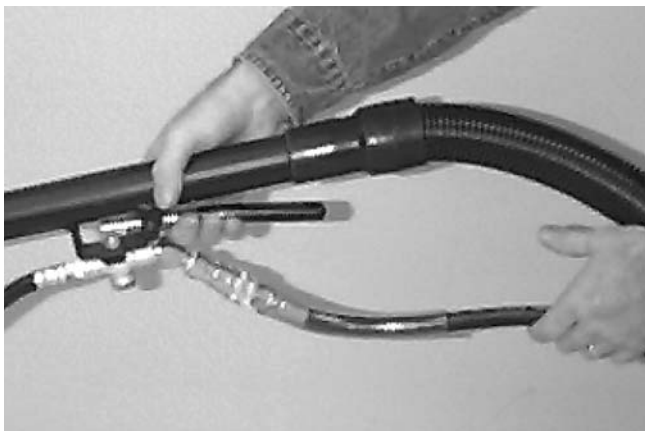

FIG. 12
- Connect accessory tool to solution hose and vacuum hose (Figure 12).